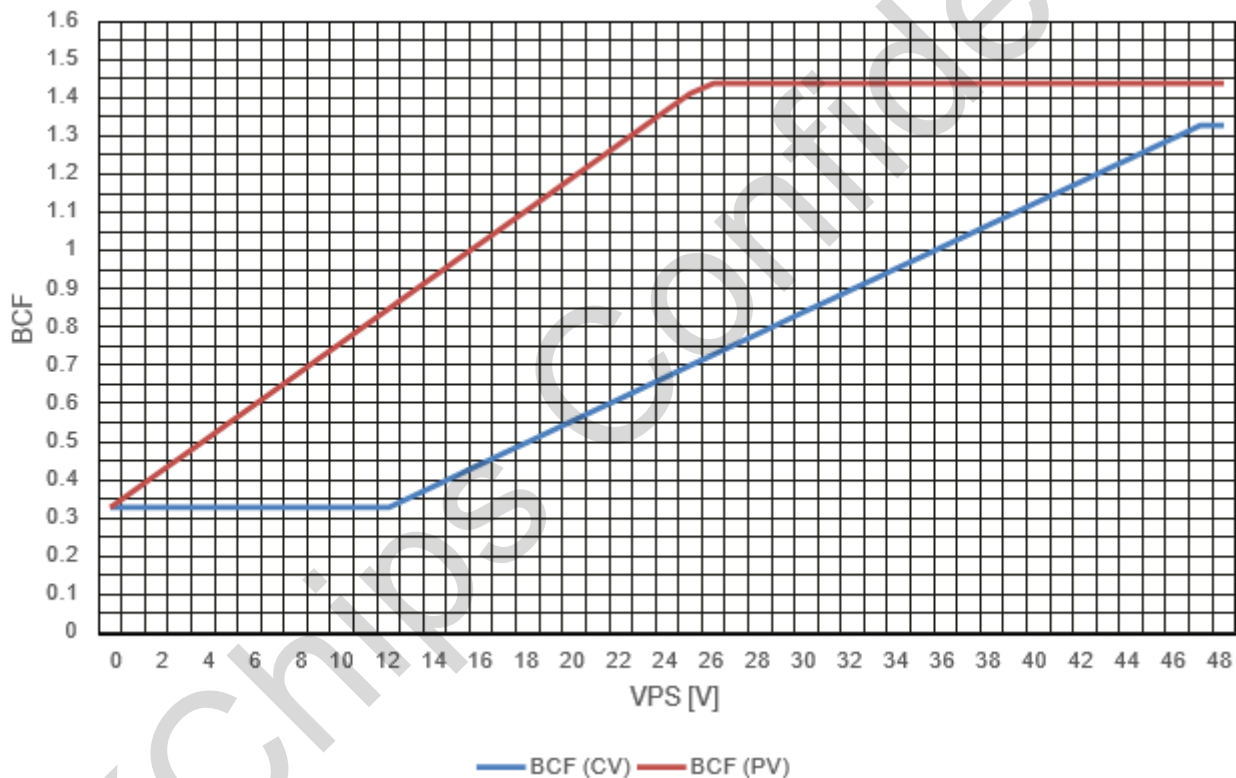

Figure 6-9 BCF vs.VPS
The battery compensation feature can be activated independently on each channel by programming the OC_Batt_comp_xx bit. Two different BCF have been implemented for Passenger Vehicle (PV) and Commercial Vehicle (CV) applications. The BCF can be selected by programming the Batt_fact_config bit (refer to Figure 6-9.)